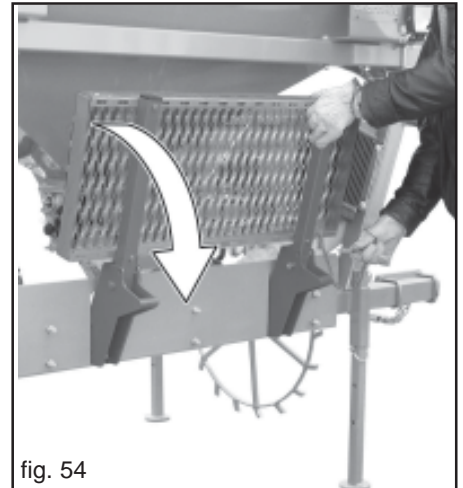

fig. 54
- 1) Rest the machine's support feet on the ground. Remove the fastening pin and pull the inspection platform down (Fig. 54).